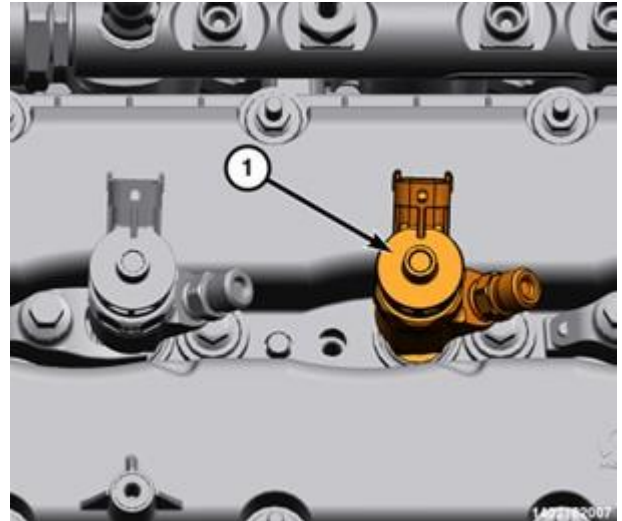

Figure 148 – Fuel Injector
94. Install the fuel injector (1) in the cylinder head (Figure 148).